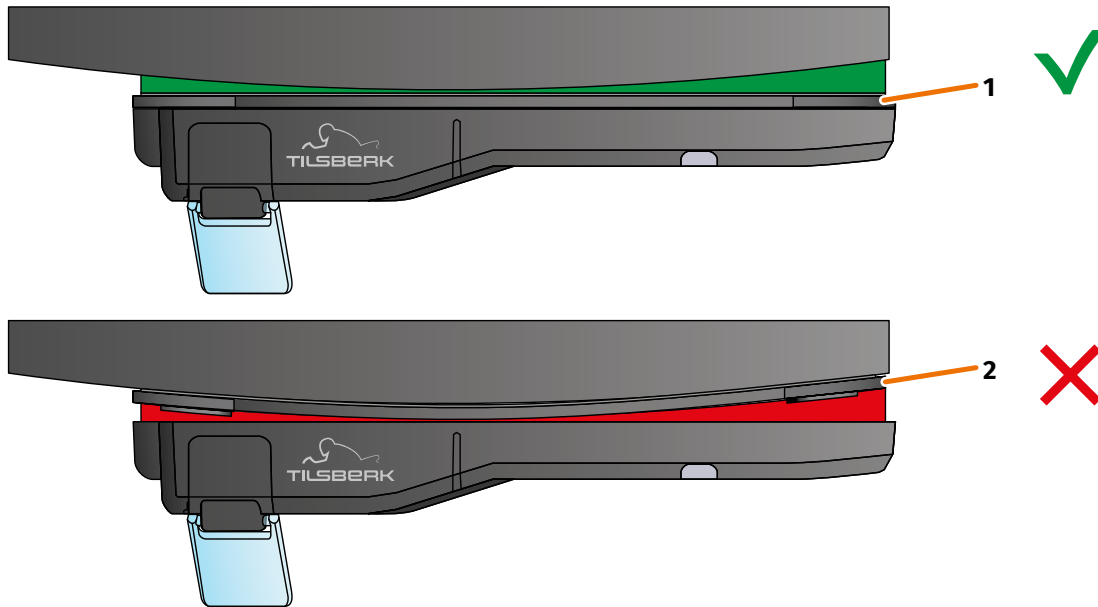

FIGURE 14: Example: straight and curved mounting surface
- Check whether the helmet adapter sits correctly on the helmet. To do so, use the magnets to attach the TILSBERK HUD module to the helmet adapter. The TILSBERK HUD module must be completely in contact with the helmet adapter. There must be no visible gap between the TILSBERK HUD module and the helmet adapter (FIGURE 14/1).
Sugru can compensate for a slight curvature in the mounting surface. If the mounting surface is highly curved and the helmet adapter does not sit correctly against the mounting surface (FIGURE 14/2), apply an additional layer of Sugru to compensate for the unevenness.